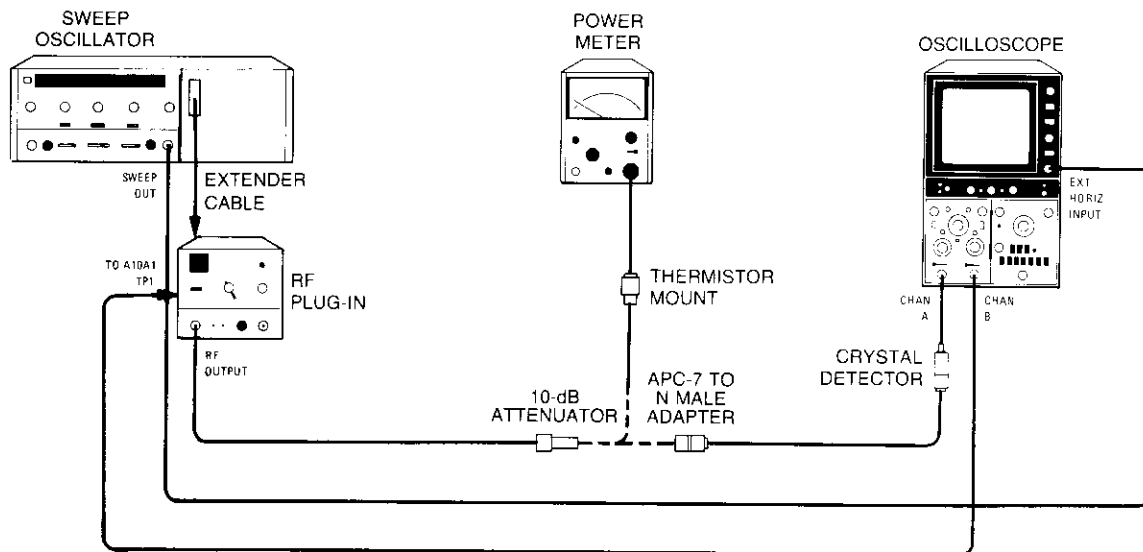

Figure 5-5. YTM Bias Control and FSA Adjustment Test Setup
- e. Connect equipment as shown in Figure 5-5 with oscilloscope, crystal detector, and 10-dB attenuator connected to RF OUTPUT. Press 8620C LINE switch to ON.
- h. Disconnect crystal detector and connect power meter/thermistor mount to 10-dB attenuator as shown in Figure 5-5.